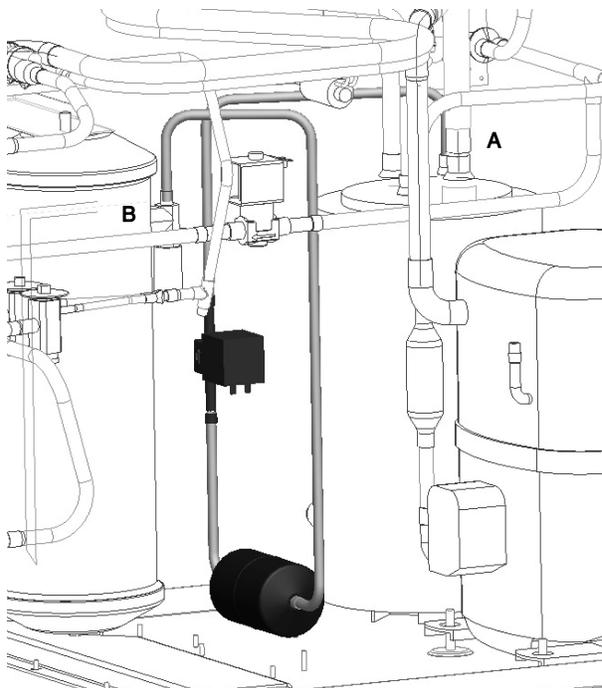

Figure 31.
Connect the filter side to the service port valve (B) on the receiver (FIGURE 31).
Connect the high side pressure tube to the Heat Exchange Suction Line just prior to the expansion valves (D) (FIGURE 31-A).